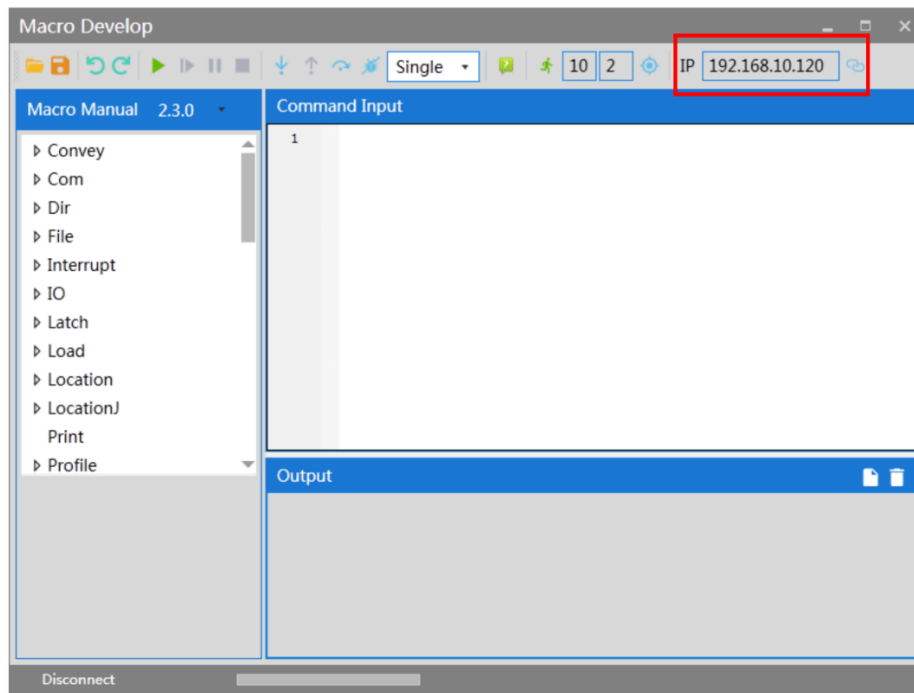

Figure 6-12 IP connection
Step 2 Click the IP address input field in the upper right corner, enter the default IP address (192.168.10.120) of the robot, and then click the <Connect> button on the right, as shown in Figure 6-12.